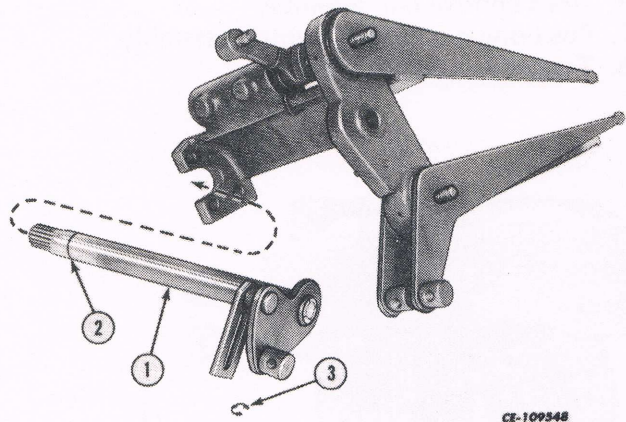

Fig. 16
- d. Remove the position control shaft (1) from the support assembly with the bearing and "O" ring (3). See Fig. 16.